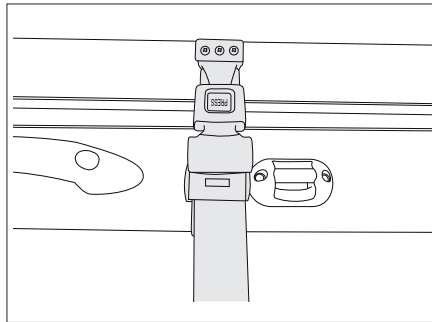

Fig. 165 Safety belt
- Loosen the retaining belt (Fig. 165).
- Attach the retaining belt (Fig. 165).